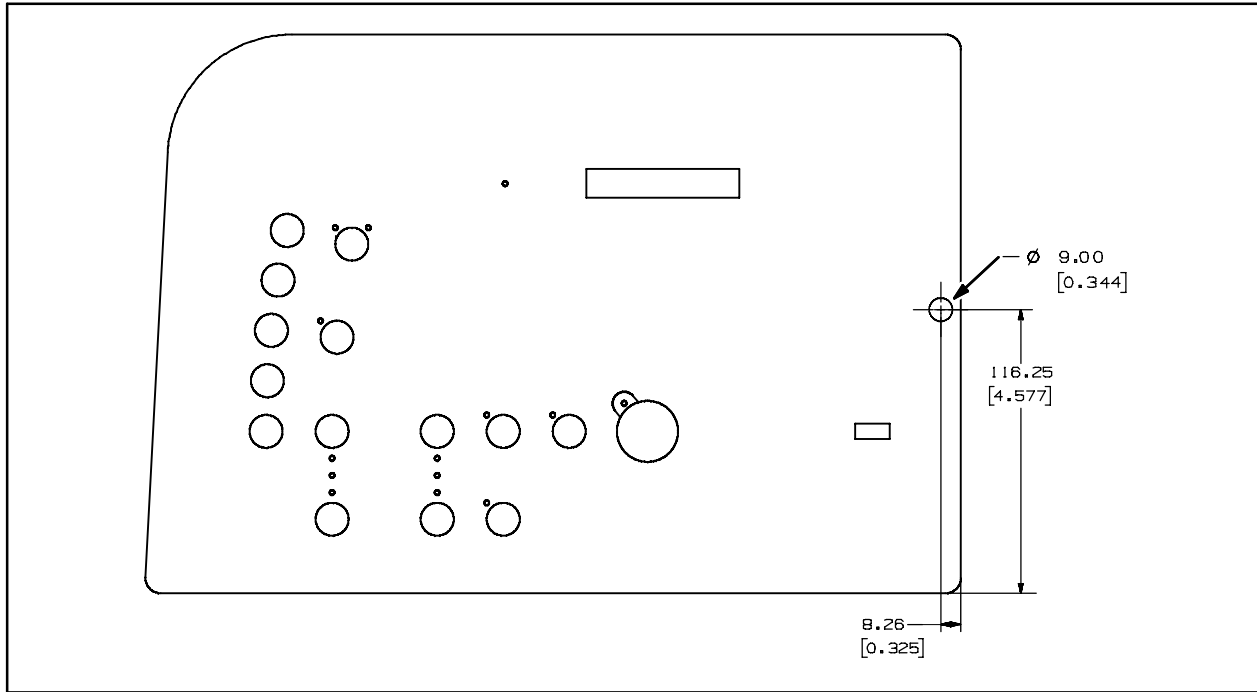

FIG. 13
41. Drill a 11/32" (0.344") hole through the instrument panel assembly. Refer to Fig. 13.
45. Insert the *ec-H20* warning light into the 11/32" (0.344") hole. Refer to Fig. 13.